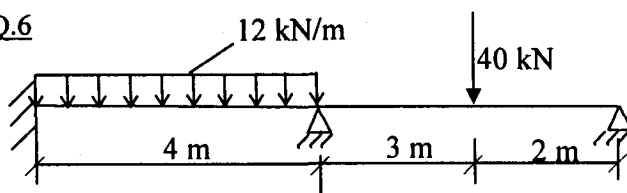

Fig. Q.8
Q.8) Analyze the beam shown in Fig. Q.8 by the Displacement method and draw the B.M. Diagram. $EI = \text{constant}$. Note: shear and axial deformations of the beam may be neglected.